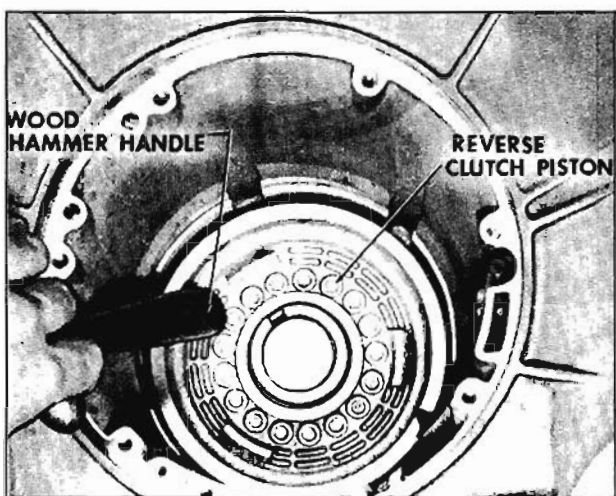

Fig. 6-417 Installing Reverse Clutch Piston
1. With transmission in vertical position, install the reverse clutch piston into case. Tap piston with hammer handle to make certain piston is seated in case. (Fig. 6-417)